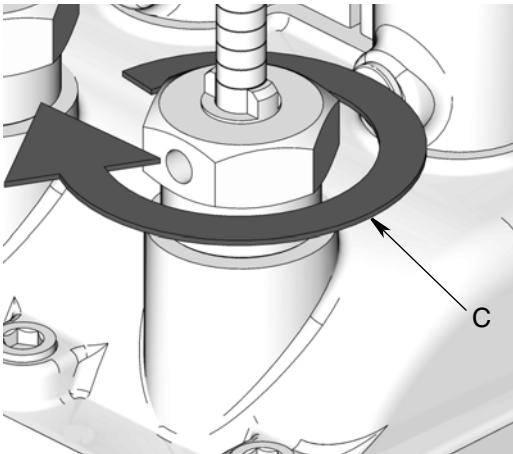
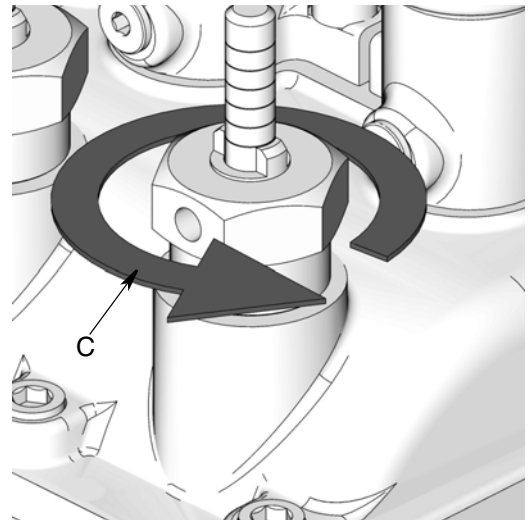

FIG. 7
FIG. 8
- Turn feed adjustment nut (C) clockwise as far as it can go to achieve maximum pumping rate (FIG. 7).
- Turn the feed adjustment nut (C) counter-clockwise to reduce the pump stroke and delivery (FIG. 8).
- Check the feed adjustment (C, FIG. 7 and FIG. 8, page 7) and adjust if the pumping rate is too low.